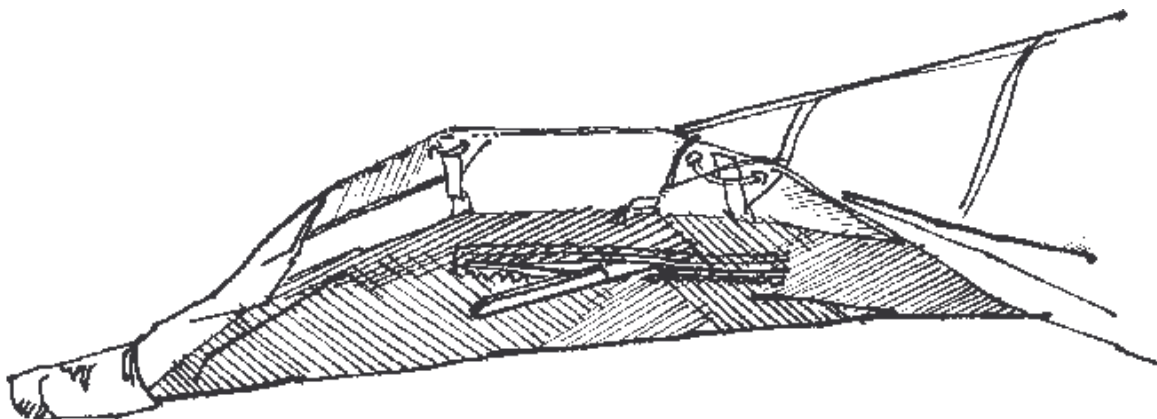

Fig. 5
2.2.3. Install the small mast on the LE-tubes/X-beam junction to its proper place. Dive sticks must be outside of sail. (Fig. 5).